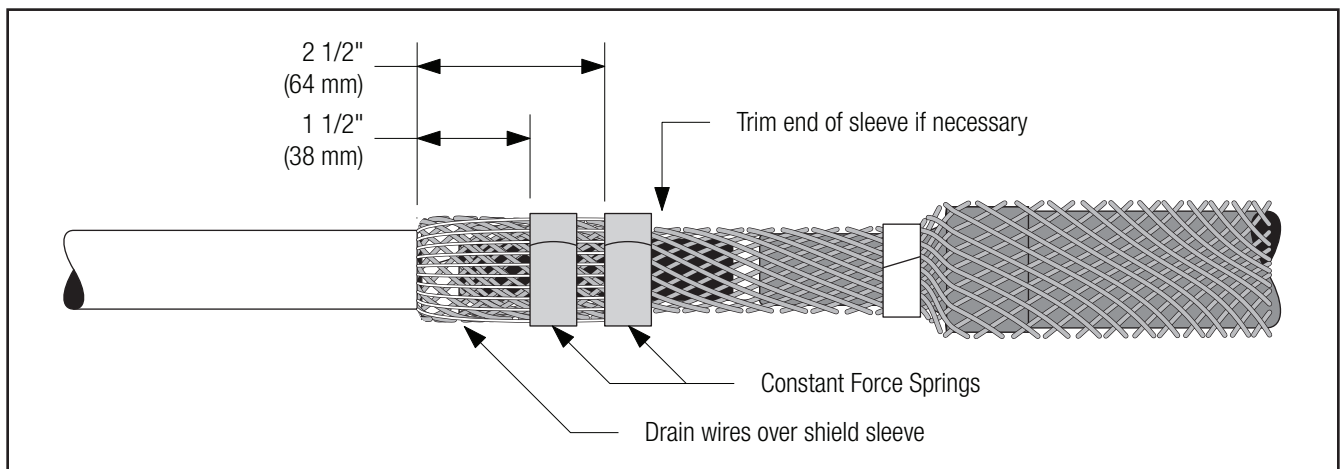

Figure 26
6.3.2 Bend ends of sleeve back over vinyl tape. Position drain wires over the shield sleeve and secure with constant force springs at 1 1/2" (38 mm) and 2 1/2" (64 mm) from jacket end. Trim off excess sleeve 1/2" (13 mm) from springs, if necessary (Figure 26).